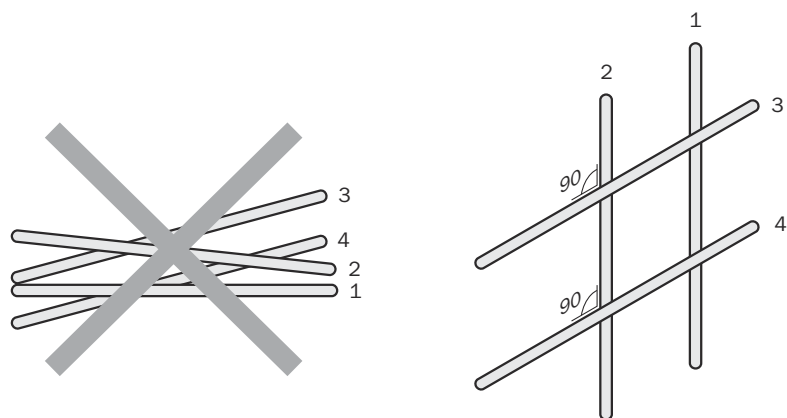

Figure 2: Cross cables at right angles
- ▶ Cables in groups 1, 2, and 3, 4 must be crossed at right angles see figure 2, page 30